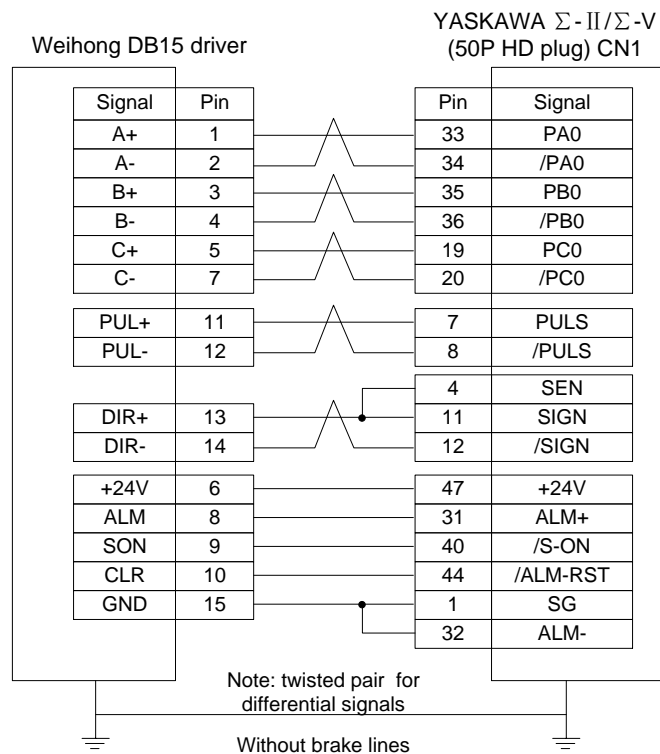
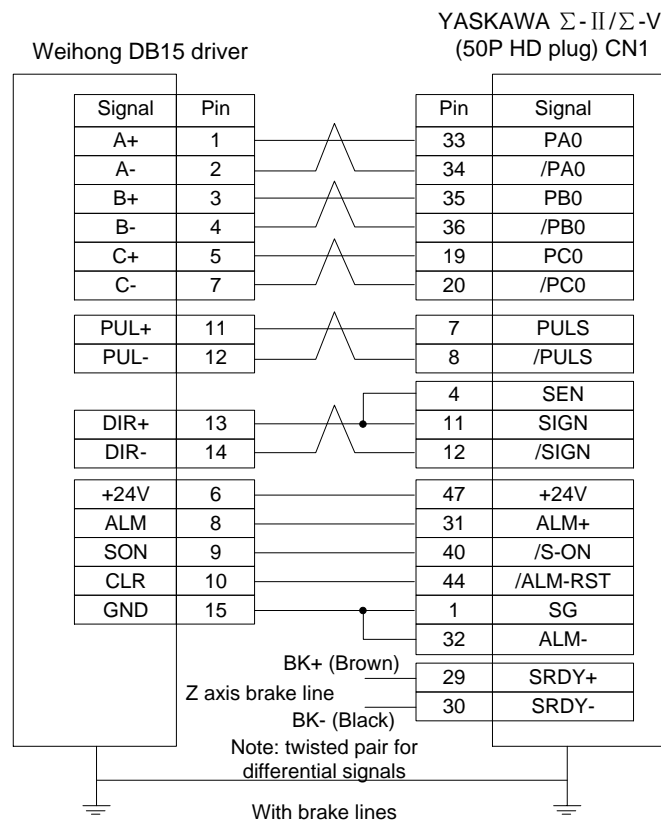

Fig. 5-7 Wiring diagram of absolute encoder (without brake lines)
Fig. 5-8 Wiring diagram of absolute encoder (with brake lines)
- 2) In terms of wiring between the controller with absolute encoder and the driver, pulse positive direction signal DIR+ can be used to control SEN signal. On basis of wiring of general incremental encoder driver, make short-circuit between pin 4 (SEN) and pin 11 (SIGN) to save another pin of +5V and simplify the wiring. See Fig. 5-7 and Fig. 5-8.